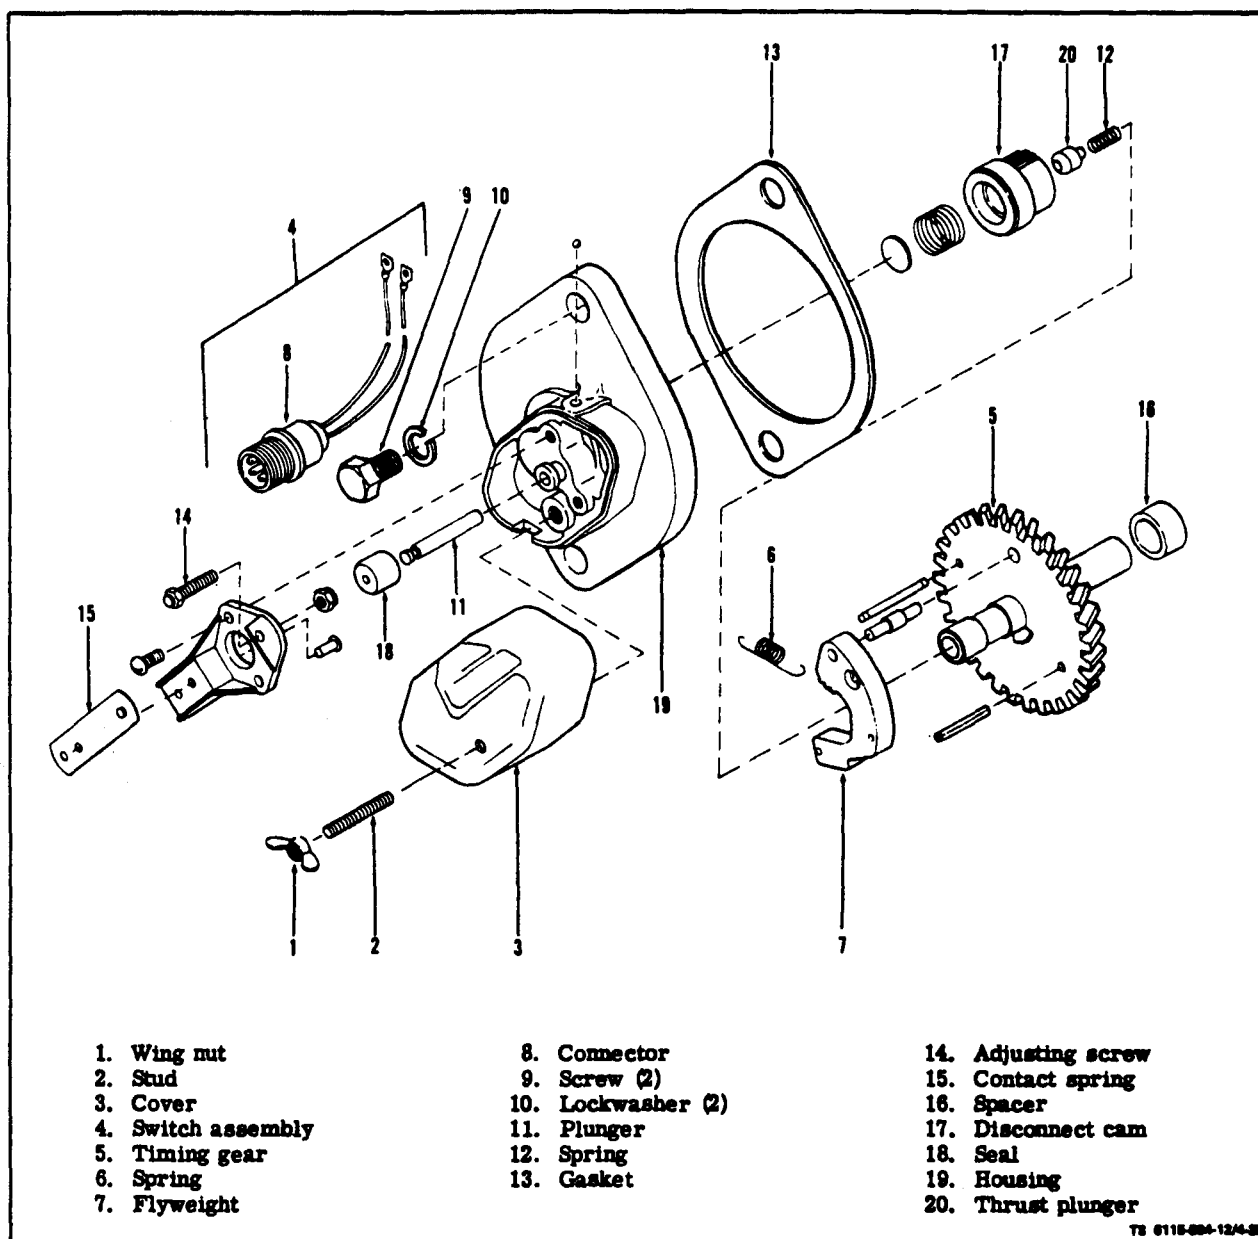
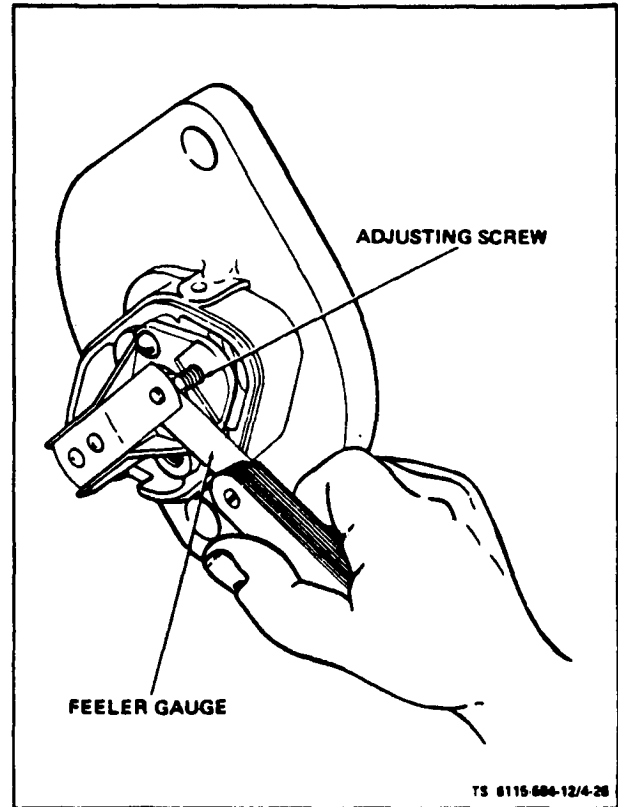
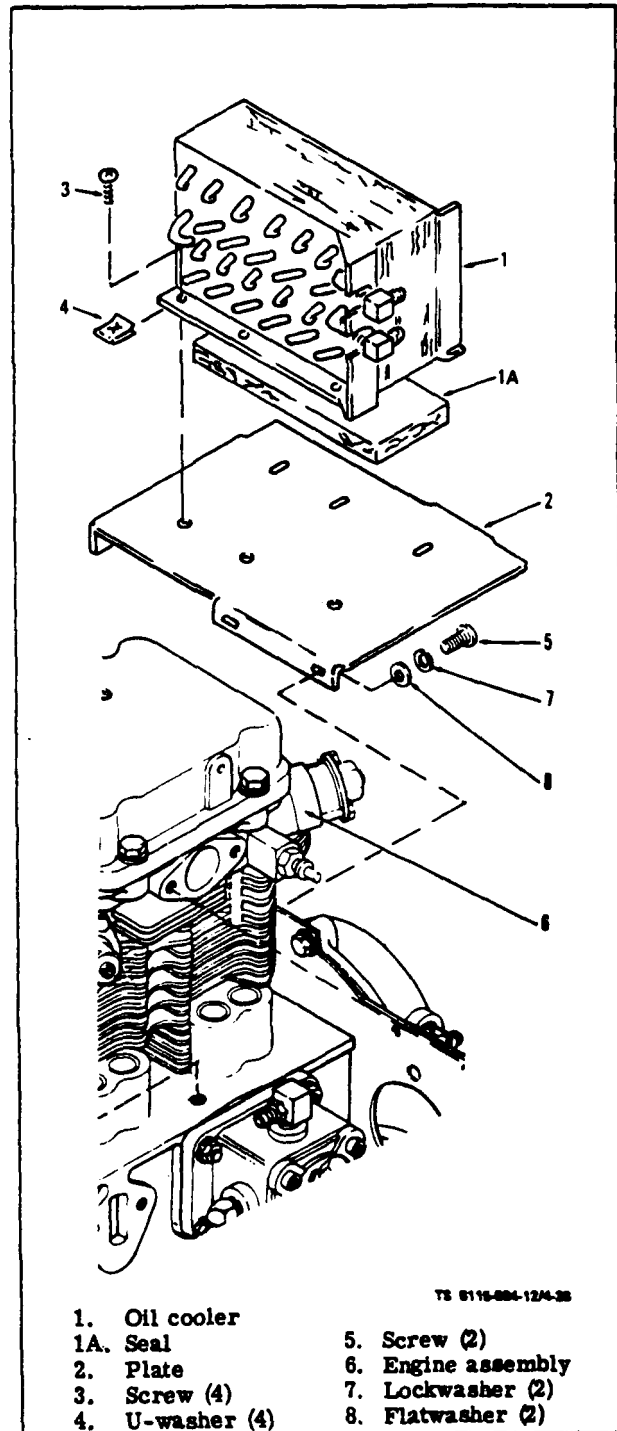
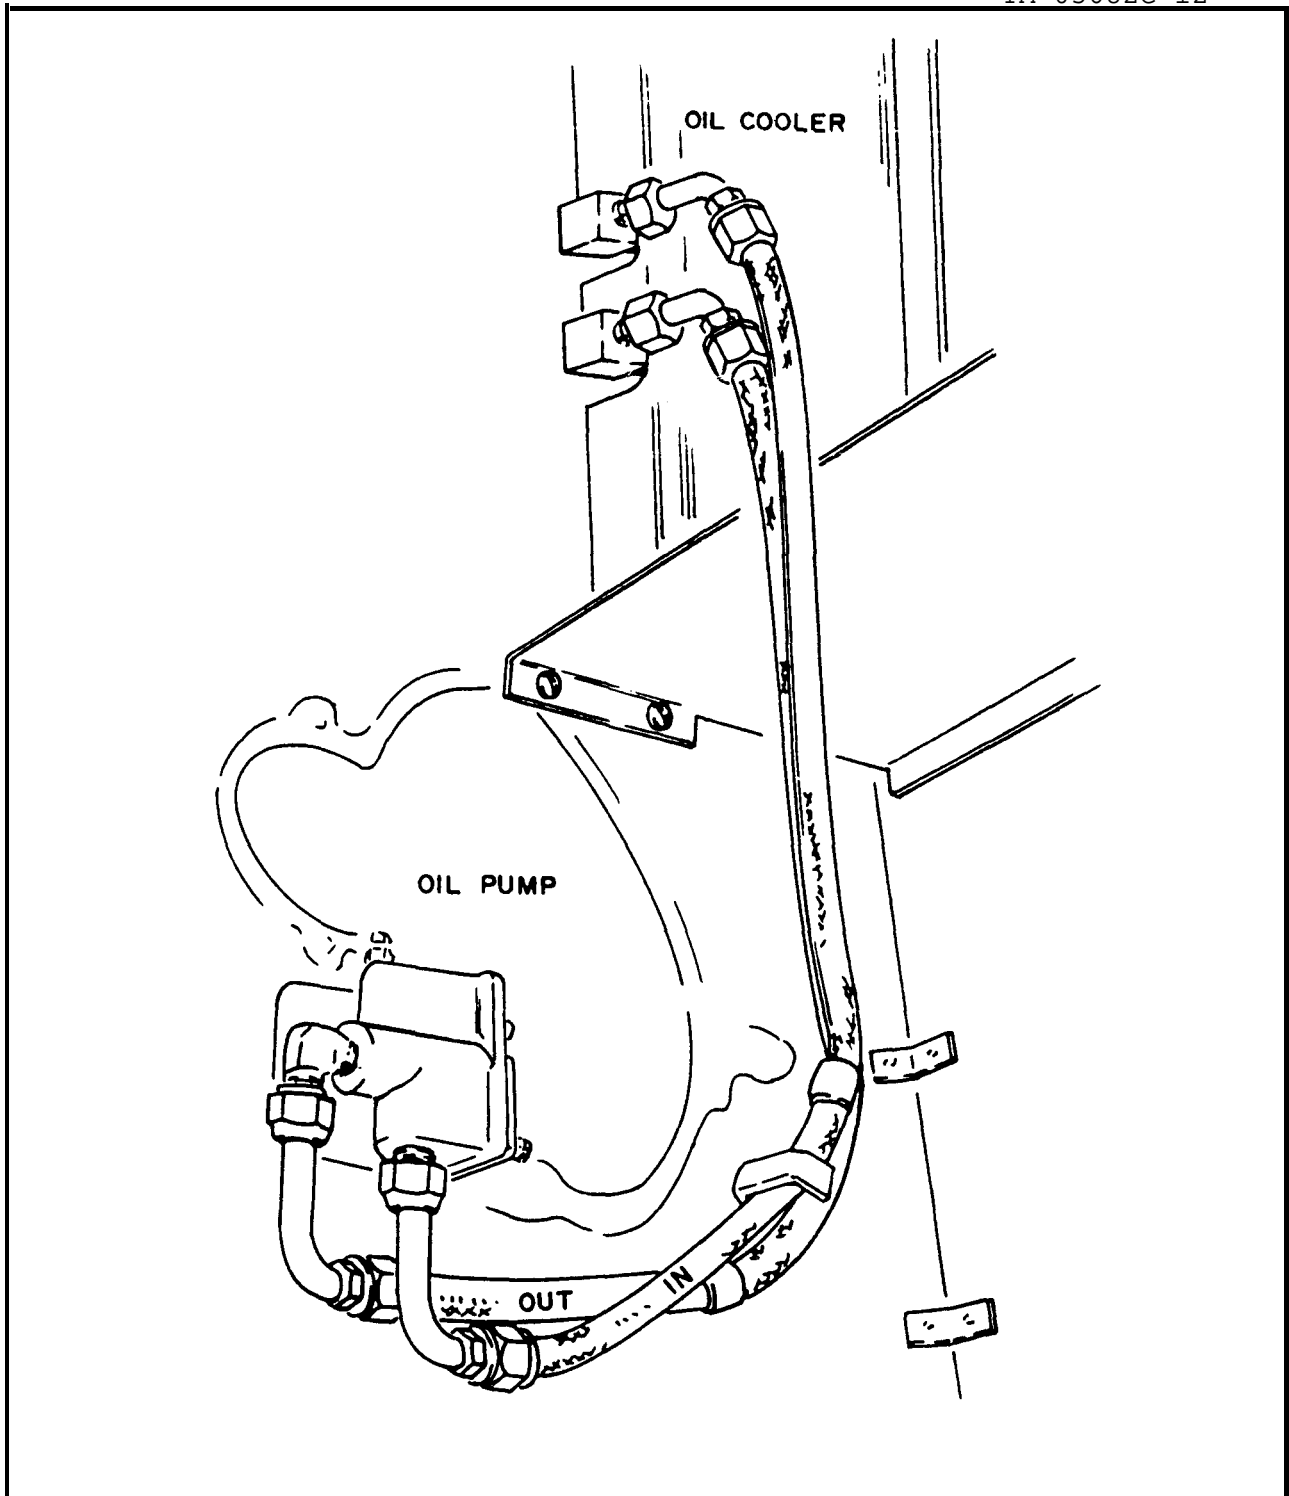

Figure 4-25. Starter Lockout Switch and Gear Assembly
Figure 4-26. Adjusting Starter Lockout Switch
Figure 4-28. Oil Cooler Assembly
Figure 4-29. Replacing Oil Cooler Hoses
a. Inspect (see figure 4-25). Disconnect negative battery cable. Remove wing nut (1) and cover (3) and inspect switch contact points between contact spring (15) and adjusting screw (14) for physical damage.
b. Test. With engine off, disconnect switch at connector (8). Using an ohmmeter, test that there is
c. Remove. Disconnect switch lead from connector (8). Remove two screw (9) and lockwashers (10) attaching switch to engine back plate. Carefully remove switch taking care not to lose thrust plunger
(20) and spring (12). Slide gear (5) out through opening in engine back plate. Clean any gasket (13) material from switch and back plate.
e. Replace. Make certain spacer (16) is on shaft and slip timing gear (5) through opening in engine back plate. Make certain that shaft seats properly in gear cover and that gear teeth are properly meshed. Place thrust plunger (20) and spring (12) in gear shaft. Slide switch and gasket (13) over shaft and attach to engine back plate with two screws (9) and lockwashers (10). Use a new gasket (13) between switch and engine back plate. Reconnect electrical connector (8).
f. Adjust. With engine stopped, remove cover retaining wing nut (1) and remove cover (3). Turn adjusting screw (14) clockwise until points open. Turn adjusting screw counterclockwise until points just close (see figure 4-26). Start engine and disconnect switch from wiring harness at connector (8, figure 4-25). Adjust adjusting screw for a 0.040 point gap. Replace cover (3) and wing nut (1). Reconnect connector (8).
a. Inspect (see figure 4-28). On ASK equipped generators, remove ASK cover assembly (para 5-3). Inspect oil cooler (1) for physical damage. Visually check for leaks where oil cooler is connected to oil hoses (figure 4-29). Check that cooler is securely fastened to mounting plate (2, figure 4-28) and that plate is securely fastened to engine. Inspect all hoses for
leaks and physical damage. Inspect seal (1A, figure 4-28) and replace if damaged. Blower housing must be removed to inspect cooler and hoses.
c. Remove. Remove blower housing. Disconnect oil cooler hoses at valve of oil filter adapter (see figure 4-29). Drain cooler into suitable container. Remove four machine screws (3, figure 4-26) and special U-shaped washers (4) attaching oil cooler (1) and oil cooler seal (1A) to mounting plate (2) and remove cooler (1). Remove and check hoses. Plug hose if not used immediately.
d. Replace. Install oil cooler (1) and oil cooler seal (1A) on mounting plate (2) and secure with screws (3) and special U-shaped washers (4). Attach oil hoses to cooler as shown in figure 4-29. Replace blower housing shown in figure 4-29. Replace blower housing. Replace any oil lost. On ASK equipped generators, replace ASK cover assembly (para 5-3).